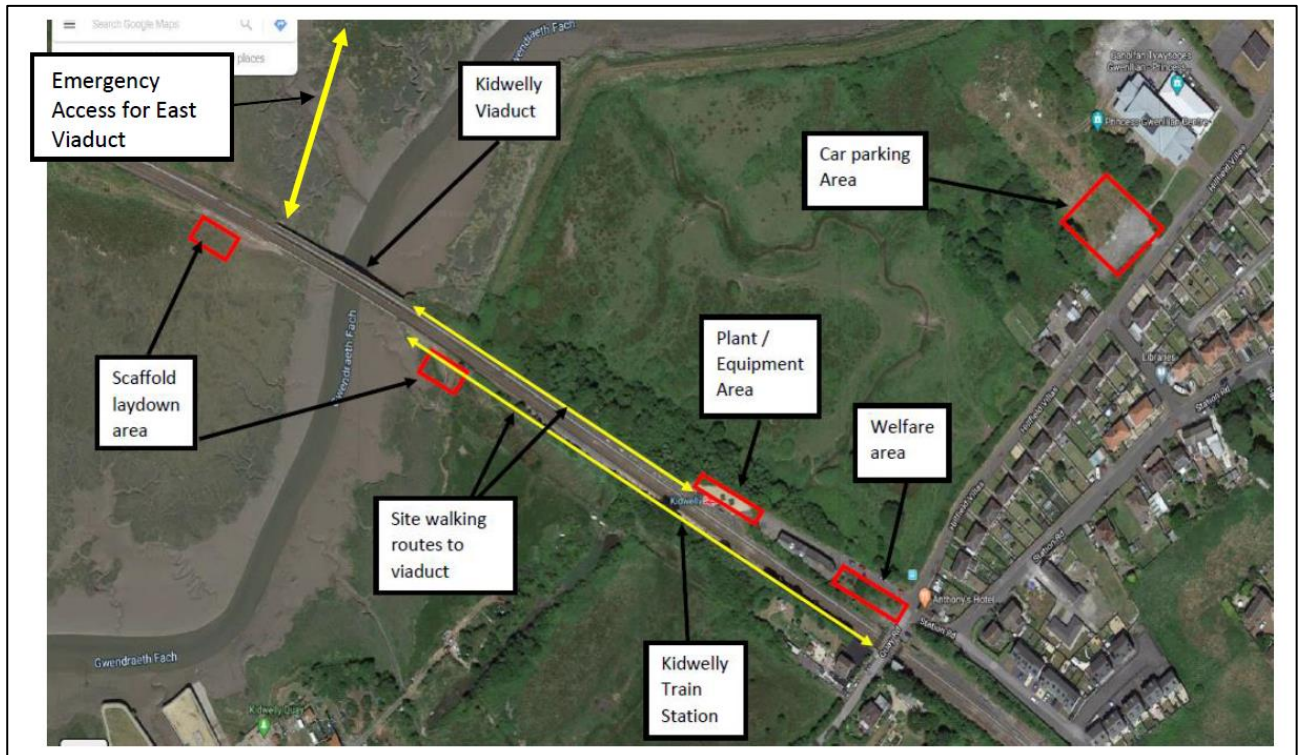

Figure 2 Site Access emergency routes, walking routes, scaffold lay down area, welfare area and Plant/ Equipment location area.
Equipment will be transported via Road Rail Vehicle (RRV) (on track plant) and positioned onto the laydown areas adjacent to both abutments (please see Figure 2 below).
An emergency access route has been planned for the East Viaduct (see Figure 2).
- Figure 2 Site Access emergency routes, walking routes, scaffold lay down area, welfare area and Plant/ Equipment location area.
Emergency access route is shown in Figure 2.